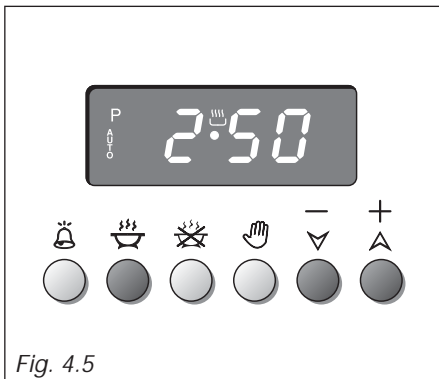

Fig. 4.5
1. Set the length of the cooking period by pushing the  button and the  (+) button to increase, or  (-) to decrease if you have passed the desired time (fig. 4.5). The **AUTO** and the  symbol will illuminate.